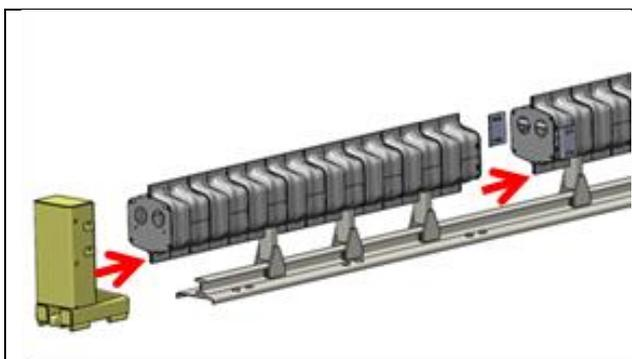

Fig. 25:Assembling of the new components
6. Replace the damaged component with the new one, then slide it back until the contact with the next bay or with the backstop of the structure.(Fig 25)